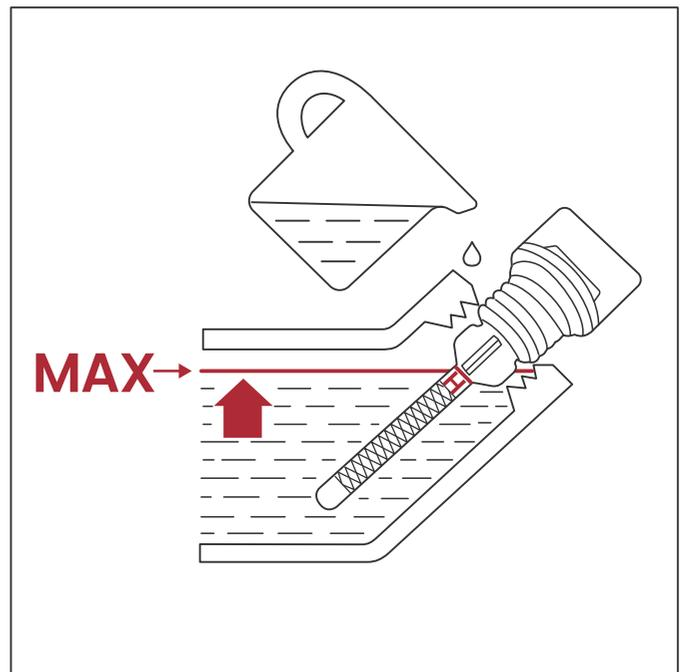

Fig.7
- 4 Check engine oil level before each use and add as needed (see **Fig.7**).